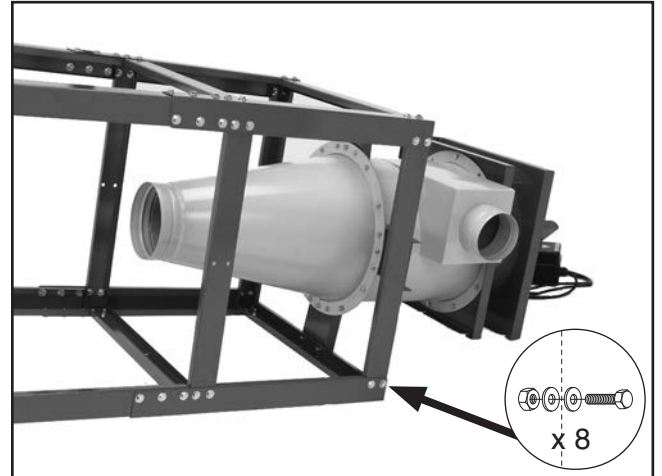

Figure 12. Collector assembly fastened to the stand.
- Fasten the collector assembly to the stand with (8) $\frac{3}{8}$ "-16 x 1" hex bolts, (16) $\frac{3}{8}$ " flat washers, and (8) $\frac{3}{8}$ "-16 lock nuts, as shown in **Figure 12**.